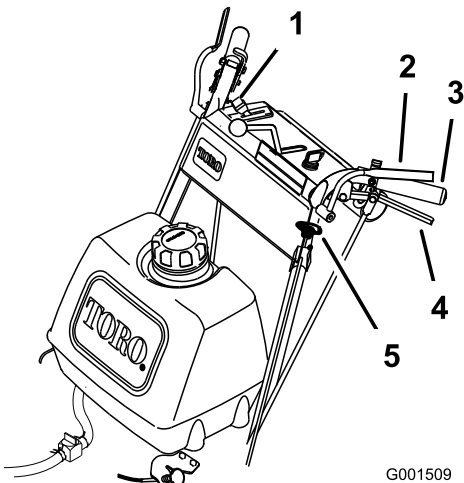

Figure 12
1. To engage the blades, squeeze the Operator Presence Control (OPC) levers against the handle grips (Figure 12).
1. Push the blade-control knob (PTO) down to the off position (Figure 12).
2. Releasing the Operator Presence Control (OPC) levers will stop the engine and stop the blades (Figure 12) with the blade-control lever engaged.